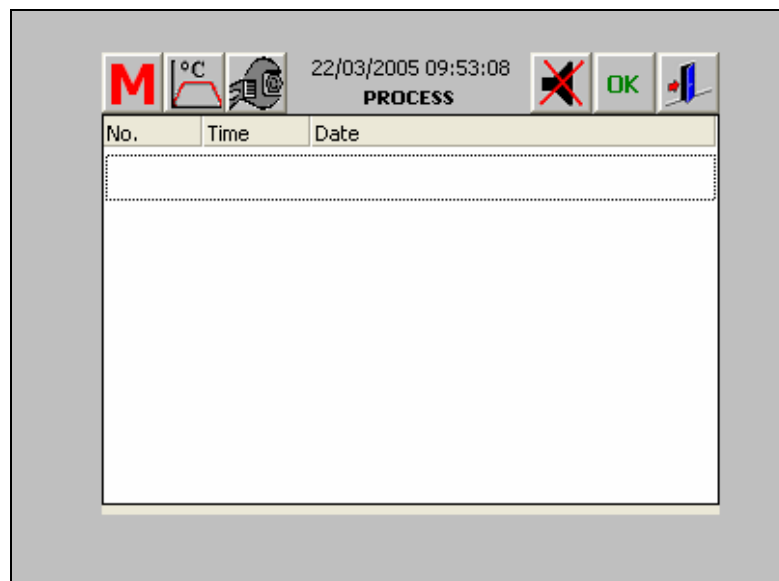

Figure 6-43 PLC Message Screen
2. The PLC Message screen appears with any messages (Figure 6-43).